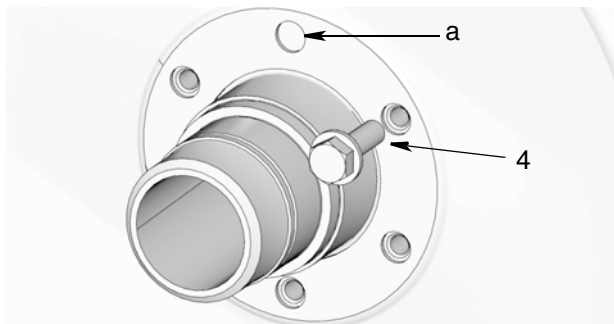

FIG. 28
**NOTE:** The swivel (3) must be installed on the correct side of the spool (2) and oriented correctly inside the spool to ensure correct hose reel operation.
- b. Temporarily install one bolt (4) through a hole to hold the swivel in the installed position (FIG. 28).
- d. Mark the position of the missing threaded screw hole (a) (FIG. 28) on the swivel to use as a reference for lining up the ratchet (31) for installation in Step 2, page 20.